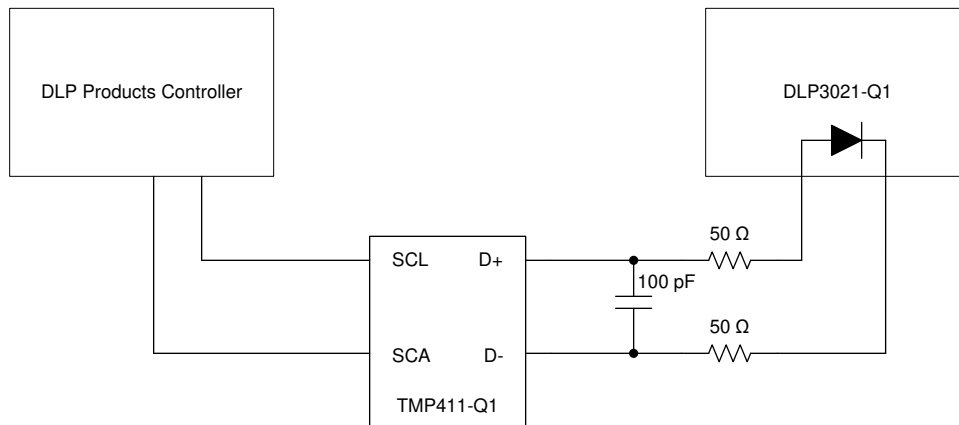

Figure 9. Temperature Sense Diode Typical Circuit Configuration
**Figure 9** shows the typical connection between the DLP products controller, TMP411-Q1, and the DLP3021-Q1 DMD. The signals to the temperature sense diode are sensitive to system noise, and care should be taken in the routing and implementation of this circuit. See the TMP411-Q1 data sheet for detailed PCB layout recommendations.